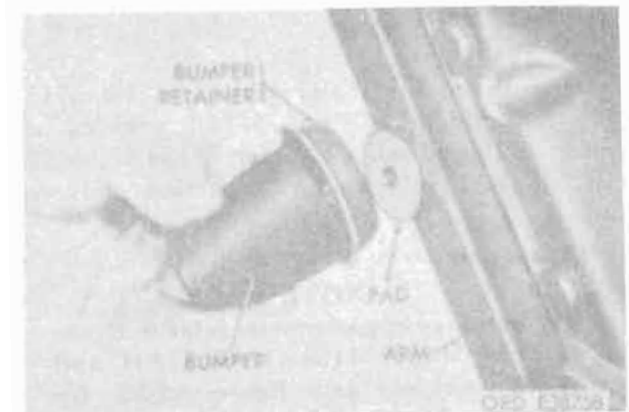
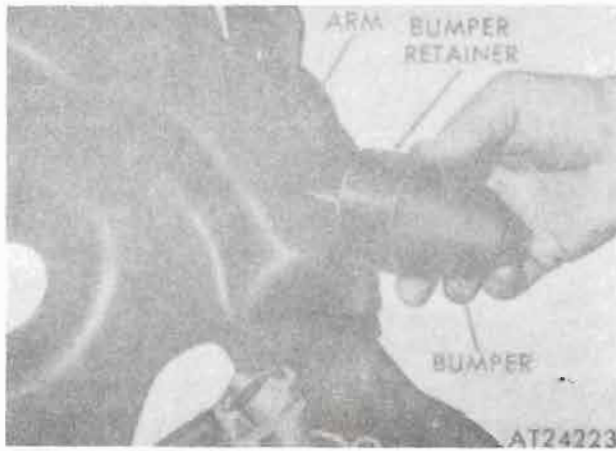

Figure 11-24. Suspension arm bumper and pad (M151, M151A1, M151A1C and M718 vehicles).
Figure 11-25. Suspension arm bumper and pad (M151A2, M825 and M718A1 vehicles).
e. Remove bumper assemblies from suspension arm assembly by turning bumper out of threaded pad on suspension arm (fig. 11-24) on M151, M151A1, M151A1C and M718 vehicles. On M151A2, M825 and M718A1 vehicles, remove bumper assembly from suspension arm assembly by turning the nut under the bumper (fig. 11-25).